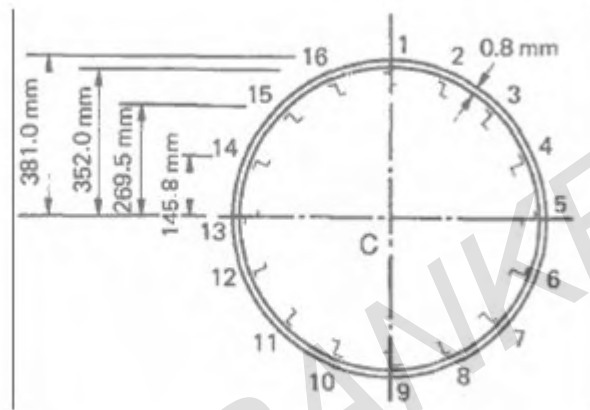

Figure 6
6. A 762 mm radius circular cross-section fuselage has 0.8 mm skin thickness and 16 number of stringers are equally placed around the circumference as shown in figure 6